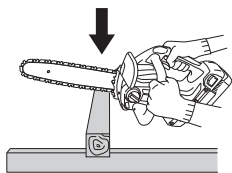

Fig. 21
- (1) Switch ON the power while keeping the saw slightly away from the wood to be cut. Start sawing only after the unit has reached full speed.
- (2) When sawing a slender piece of wood, press the base section of the guide bar against the wood and saw downward as shown in Fig. 21.